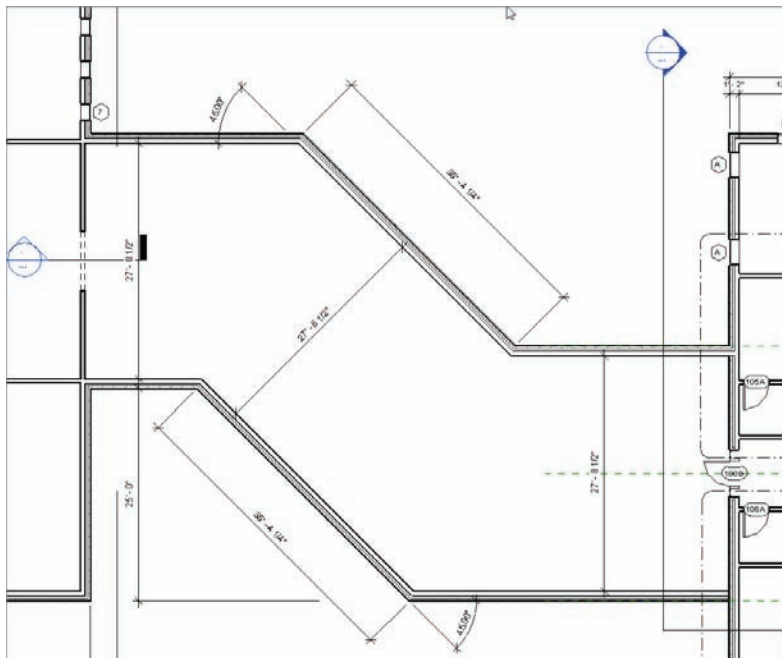

FIGURE 5.20 Finish placing the corridor dimensions.
8. Add the rest of the dimensions, as shown in Figure 5.20. This completes the dimensioning of the corridor area.